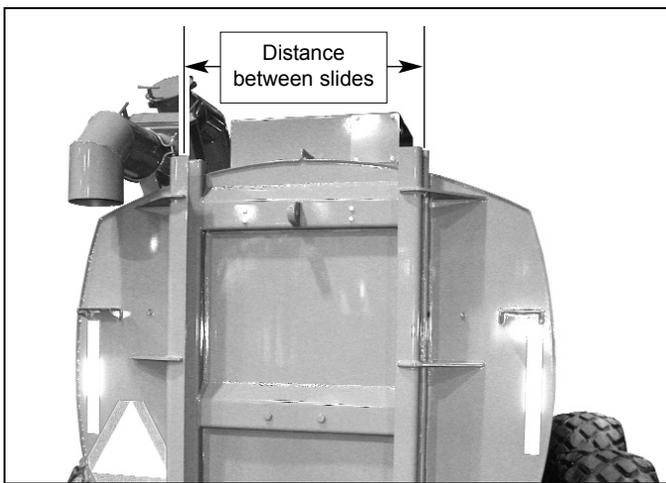
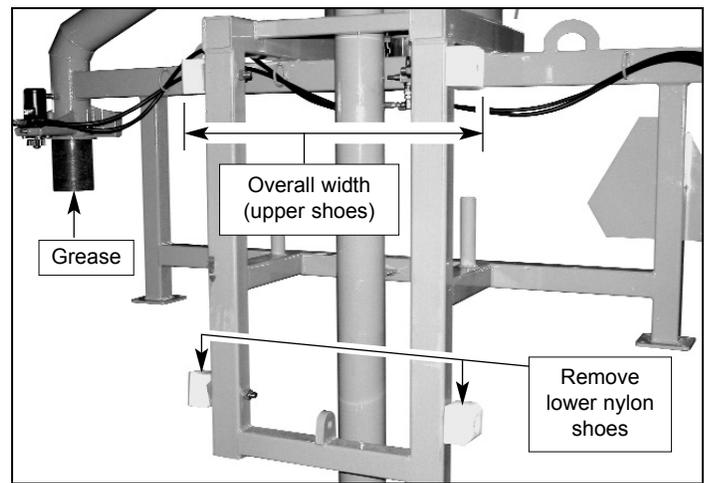

Fig. 1
Fig. 2
- 1.1. Measure the distance between the inside of the slides - *fig. 1*. Compare this distance with the overall width of the upper nylon shoes - *fig. 2*. Add or remove spacers in order to get a lateral play of approximately 1/16".
- 1.2. Remove the lower nylon shoes - *fig. 2*.
- 2.1. Grease the joints of the side arms - *fig. 2, page 2*.